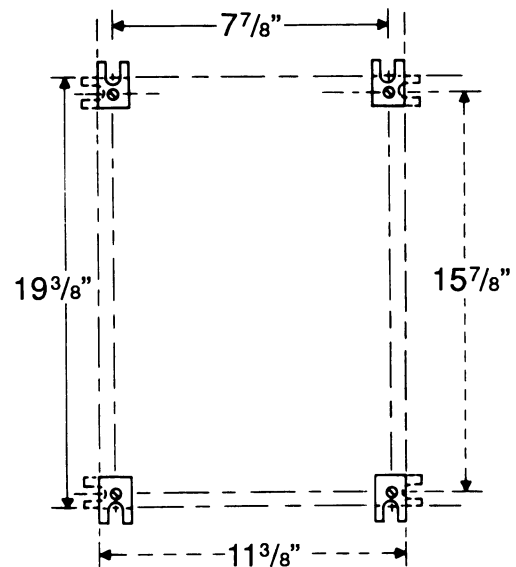

Figure 1
1. Select mounting location that will provide suitable strength and rigidity for supporting the enclosure and all contained wiring. The mounting dimensions for the four mounting feet for lag screws or mounting bolts are shown in figure 1.